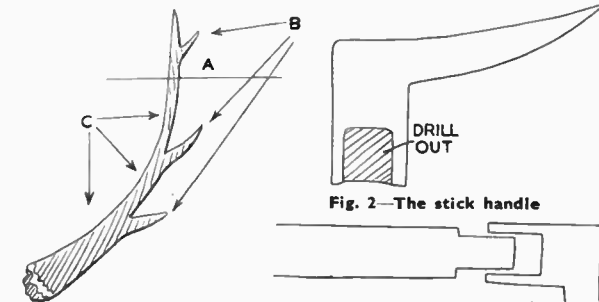

Fig. 1—The antler complete Fig. 3—Stick fits into handle
The antlers may be divided into three sections as shown in Fig. 1. Part (A) is the tip, and this can be utilized for walking stick or riding crop handles. Parts (B), known as the 'points', may be used for making paper knives, book-marks, etc. The main trunk of the antlers, part (C), for making toggles, match or spill holders.